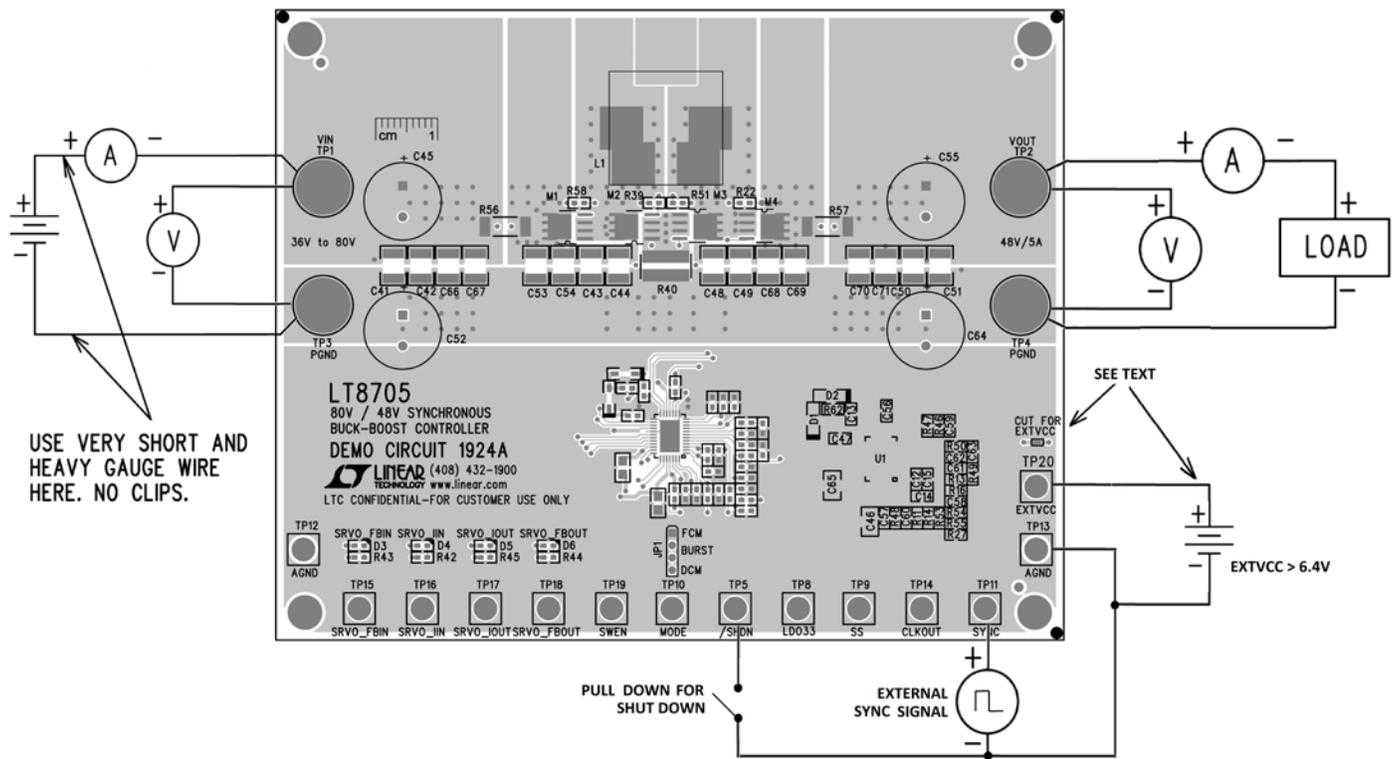

Figure 2. Test Setup
1. Demonstration circuit 1924A is easy to set up to evaluate the performance of the LT8705. Refer to Figure 2 for proper measurement equipment setup and follow the procedure below.